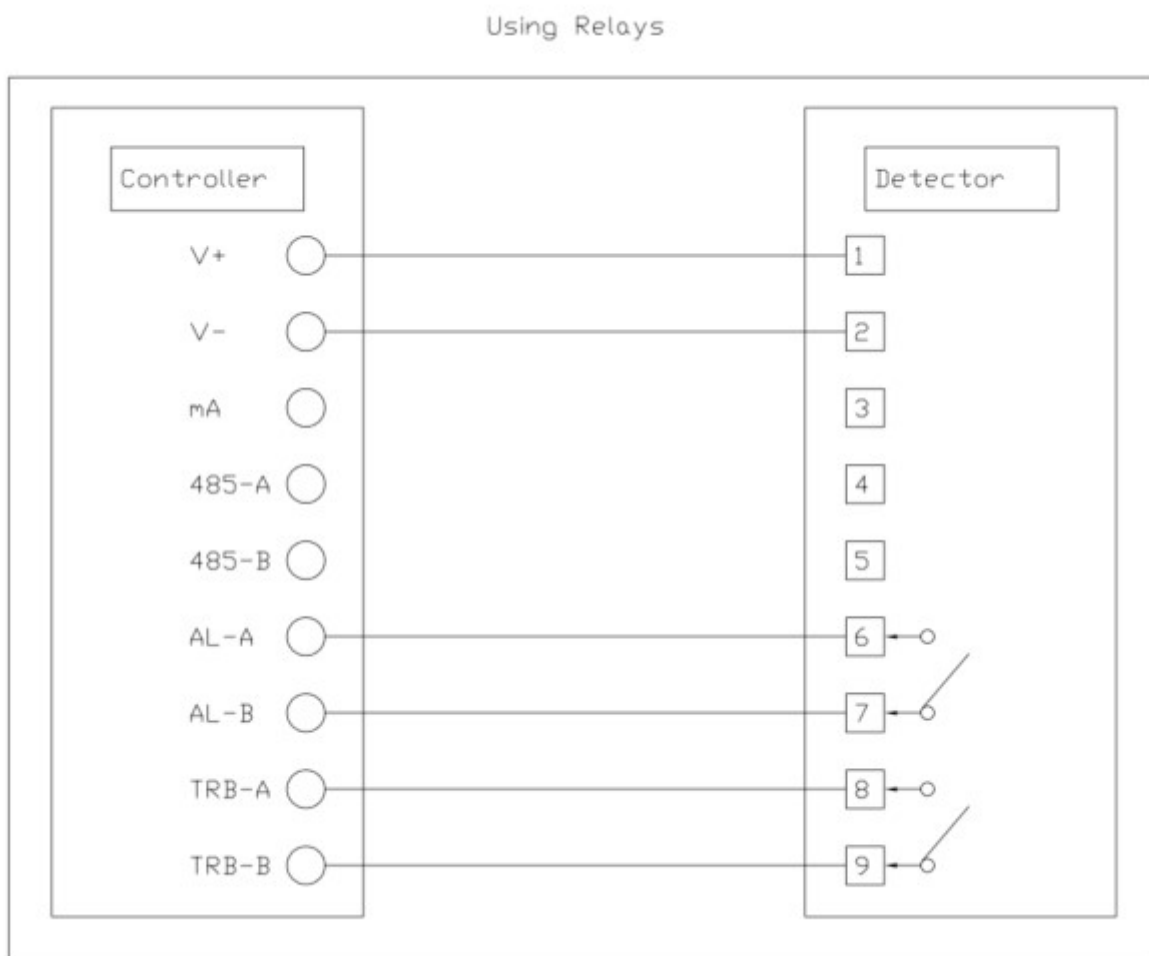

Figure 4: Using Relay Contact Wiring Diagram
In order to use the relay outputs in accordance with Figure 4, you can use pins 6 and 7 of the Alarm (AL) relay to display the Alarm Condition and pins 8 and 9 of the TRB relay to display the Fault Condition state. Keep in mind that in this case, the detector needs to be connected to the power supply in pins 1 (V+ or 24 VDC) and 2 (V- or 0).